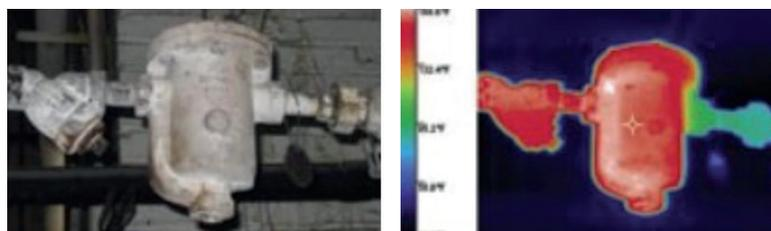

Fig.5
5. inspection of steam systems (Fig. 5)